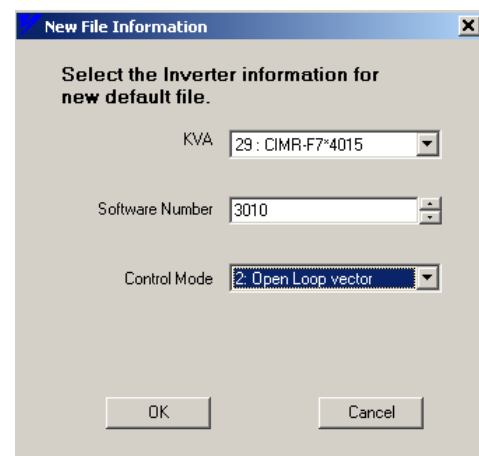

Figure 3.16: Inverter Information
2. A window as shown in Figure 3.16 will appear.